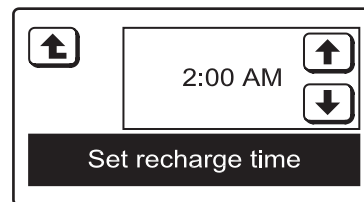

FIG. 36
4. Press the SET RECHARGE TIME button and the display will change to show the **Set recharge time** screen (See Figure 36).